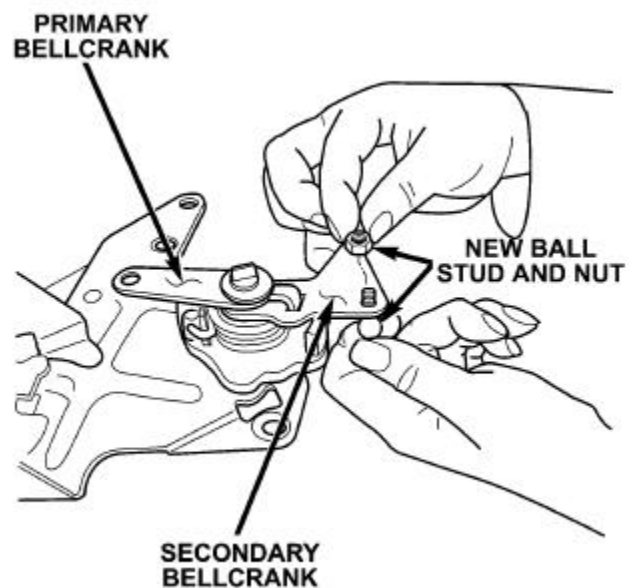

Figure 7
25. Install a new throttle rod ball stud as shown in Figure 7. Tighten ball stud nut to 80 in. lbs. (9 N·m)